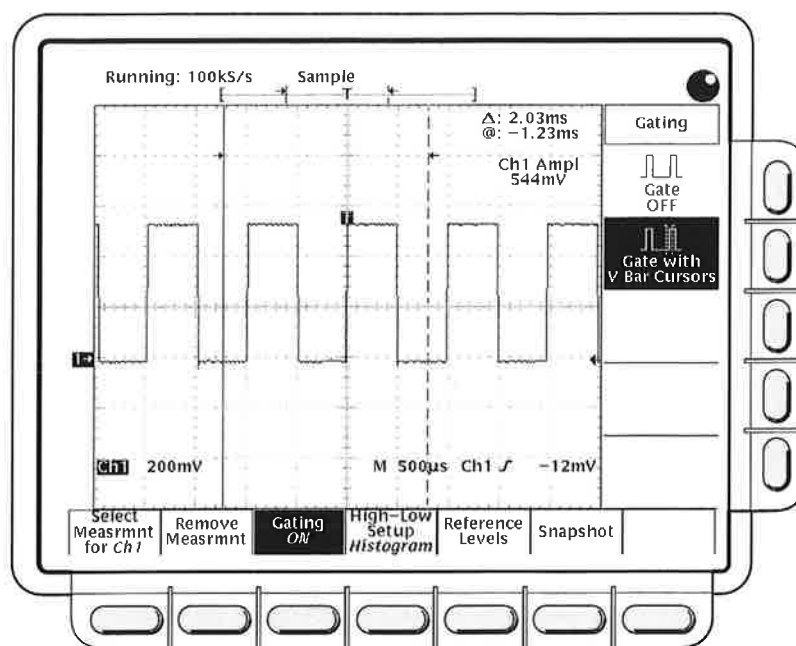

Figure 3-31: Measure Menu—Gating
1. Press **MEASURE** → **Gating** (main) → **Gate with V Bar Cursors** (side) (see Figure 3-31).